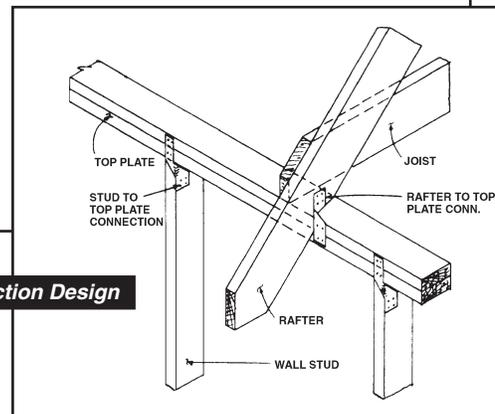

Figure 3. Connection Design
- Connection Design.** Are member connections (Figure 3) and fasteners adequate to carry loads from the DWV or higher velocities established for the area?